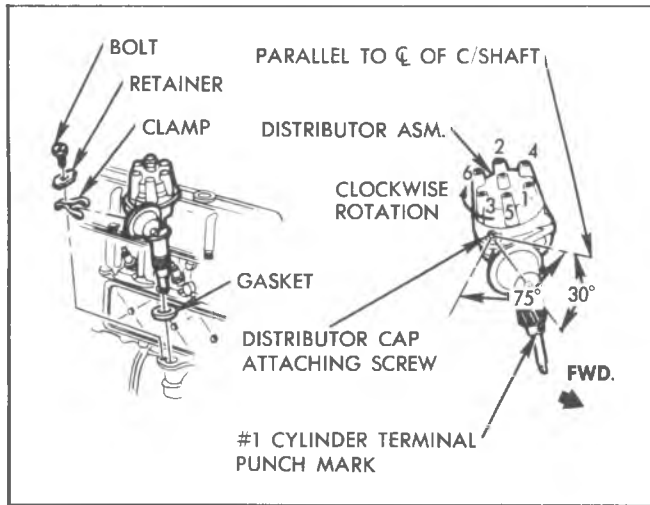

Fig. 21i—Six Cylinder Engine Distributor Installation
2. Push the distributor down into position in the block with the housing in a normal "installed" position (fig. 21i).